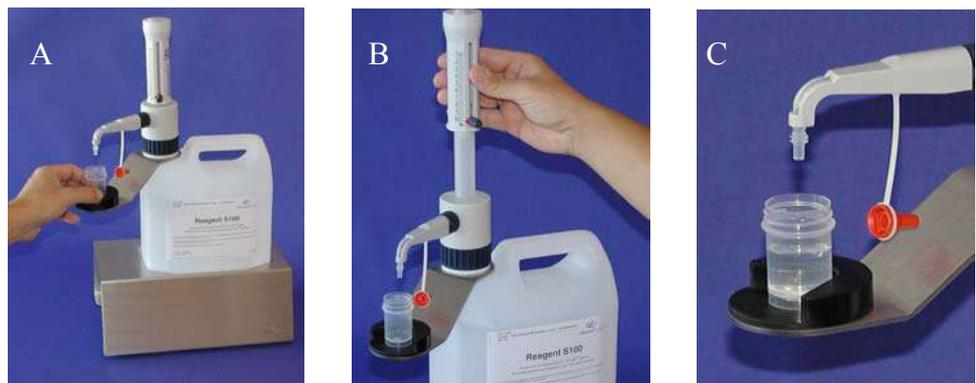

Figure 2. (A) Placing the sample cup in the cup holder; (B) Dispensing 10 ml or 20 ml of Reagent S100; (C) Sample cup with lysate mixture.
- 4A. Place the sample cup in the cup-holder and dispense **20,00 ml** of Reagent S100 into the cup using the dispenser. Dispense the reagent directly onto the semen sample at the bottom of the cup. Use a firm, consistent plunger pressure, so that the plunger moves smoothly (*cf. figure 2*). Put on the lid and Vortex the mixture for 10 seconds if the ejaculate is not fresh.
- 4B. Place the sample cup in the cup-holder and dispense **10,00 ml** of Reagent S100 into the cup using the dispenser. Dispense the reagent directly onto the semen sample at the bottom of the cup. Use a firm, consistent plunger pressure, so that the plunger moves smoothly (*cf. figure 2*). Put on the lid and Vortex the mixture for 10 seconds if the ejaculate is not fresh.